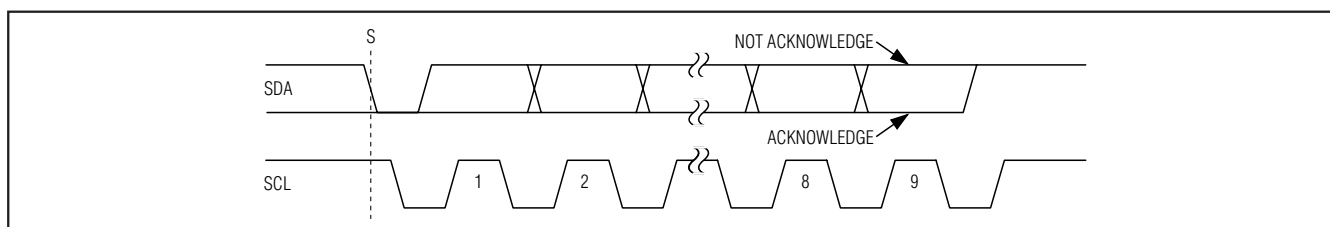

Figure 8. Acknowledge Bits
Successful data transfers are acknowledged with an acknowledge bit (A) or a not-acknowledge bit ($\bar{A}$). Both the master and the MAX1069 (slave) generate acknowledge bits. To generate an acknowledge, the receiving device must pull SDA low before the rising edge of the acknowledge-related clock pulse (ninth pulse) and keep it low during the high period of the clock pulse (Figure 8). To generate a not acknowledge, the receiver allows SDA to be pulled high before the rising edge of the acknowledge-related clock pulse and leaves it high during the high period of the clock pulse.